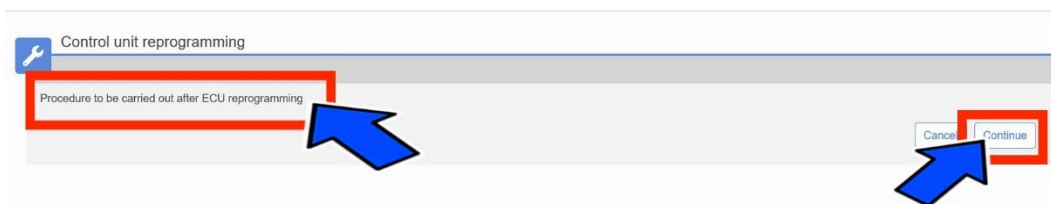

Figure 19 - Procedure to be carried out after ECU reprogramming
- 18. Select “Procedure to be carried out after ECU reprogramming” and then click “Continue” (Figure 19).